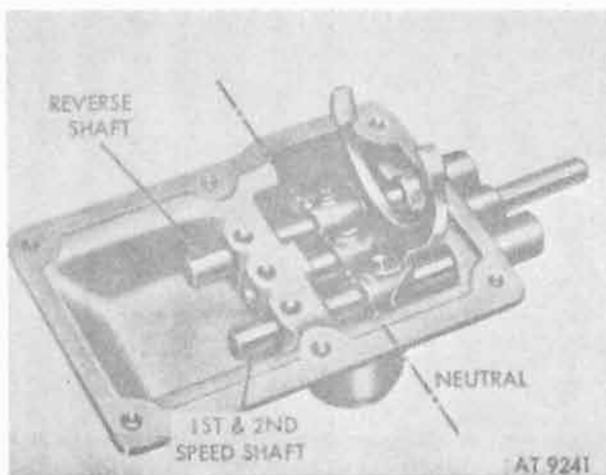

Figure 8-108. Neutral position of reverse, and first and second speed shifter shafts.
j. Position reverse-shifter shaft and first- and second-speed shifter shaft in neutral (fig. 8-108).